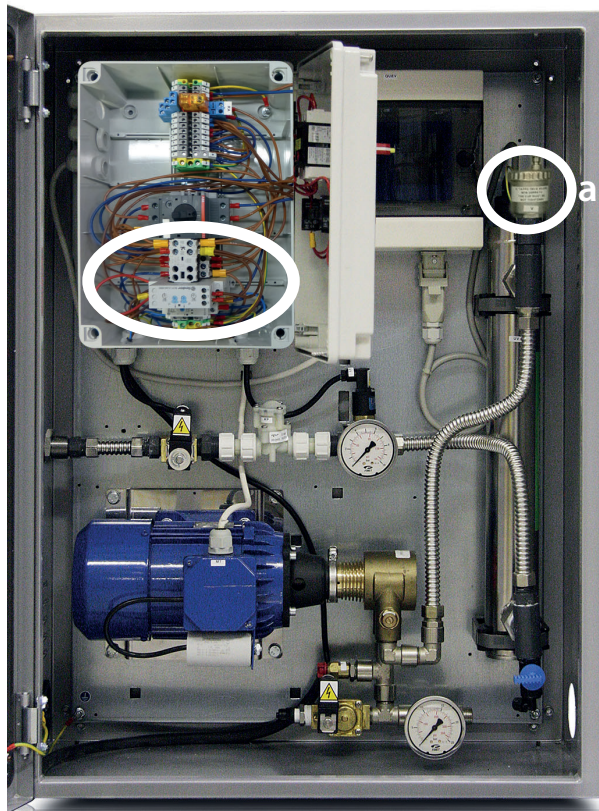

Fig. 5.a
9. make sure that the motor overload protector switch Q is in position "1" (Fig. 5.a);
Note: when starting the pump, a few drops of water may be released from the drain valve for a few seconds (ref. "a" - Fig. 5.a).